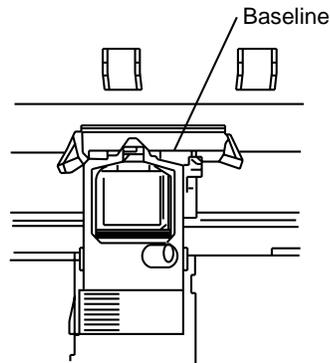

Figure 9-9. Model 602 TOF Indicator
13. The baseline for the Top of Form (TOF) on the paper is indicated by the red line on the clear plastic paper shield. See Figure 9-9 for the location of the red line.